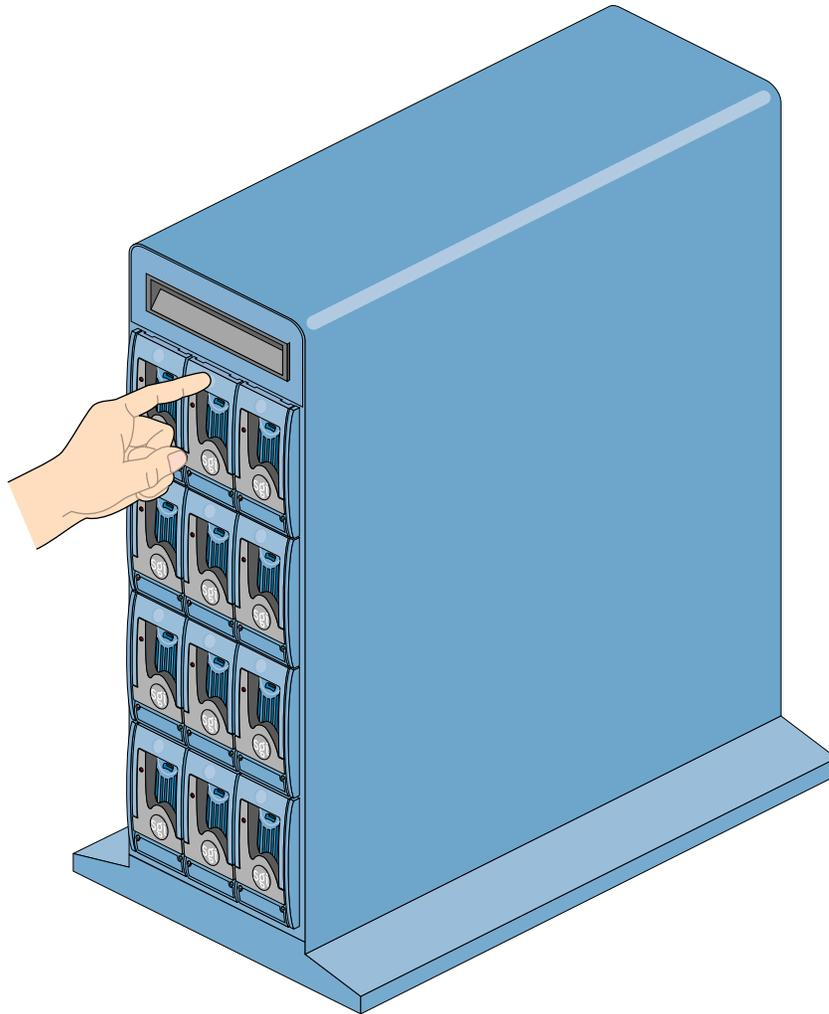

Figure 6-6 Inserting the Disk Drive Module: Engaging the Camming Lever
7. Press on the drive handle to seat the drive. The camming lever on the right of the module engages with a slot in the chassis; see Figure 6-6.